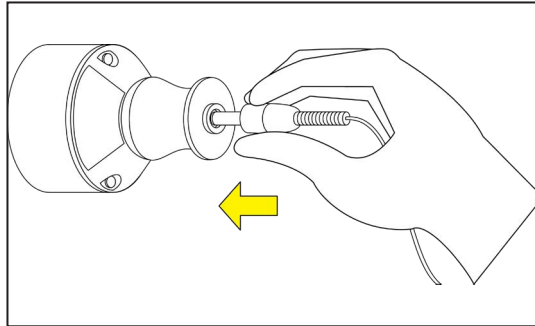

Figure 12. Inserting the power connector into the power module.
STEP 1. Plug the connector of the ac adapter into the opening of the power module. See Figure 12.